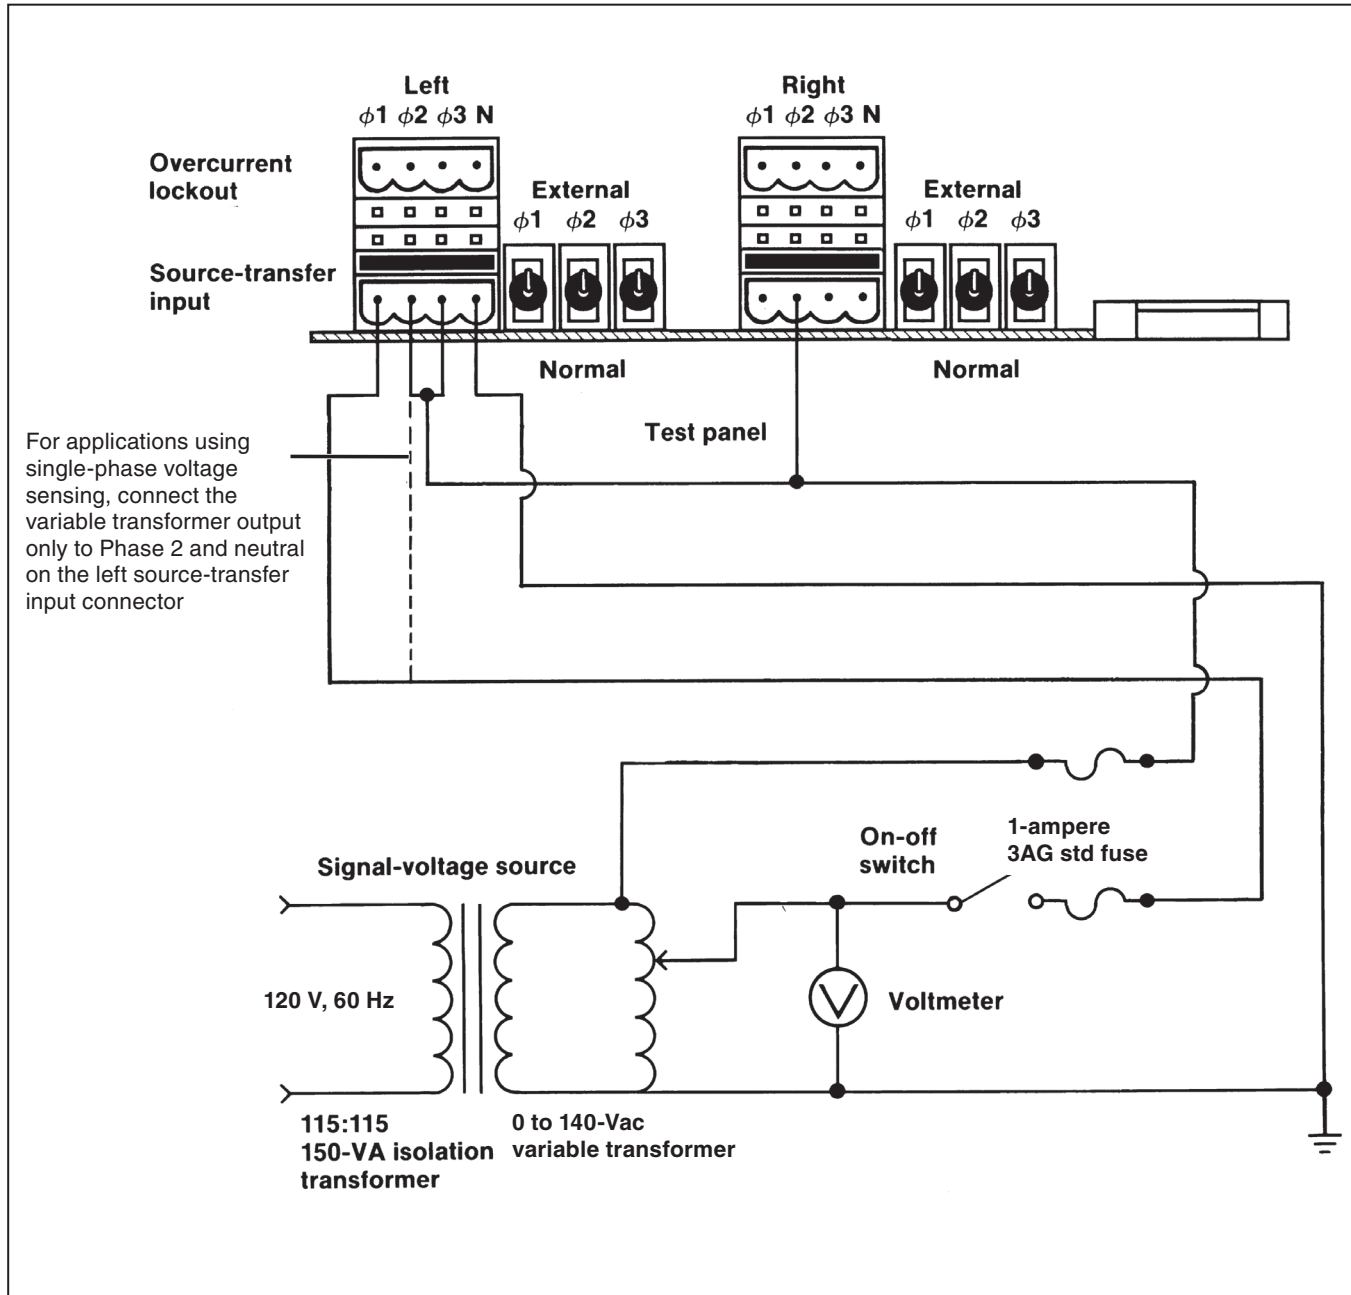

Figure 12. A single-phase source test-circuit connection diagram for weatherproof enclosure applications.
If a 0 to 140-volt, 60-Hz three-phase signal-voltage source with variable phase shift is unavailable: Make up the single-phase source test-circuit connections as shown in Figure 12 on page 28.
STEP 6. *For applications using single-phase voltage sensing:* Make up the single-phase source test-circuit connections to Phase 2 and neutral on the left source-transfer input connector and to Phase 2 on the right source-transfer input connector as shown in Figure 12 on page 28.
If the single-phase source test circuit shown in Figure 12 on page 28 is used:
Repeat Steps 11 through 15 for Phase 2 and then for Phase 3. When inputting signal voltage to Phase 2, de-energize the signal-voltage source and jumper Phases 1 and 3 of the left source-transfer input connector (instead of Phases 2 and 3 as shown in Figure 12 on page 28). Then, energize the signal-voltage source. When inputting signal voltage to Phase 3, de-energize the signal-voltage source and jumper Phases 1 and 2 of the left source-transfer input connector and then energize the signal-voltage source.